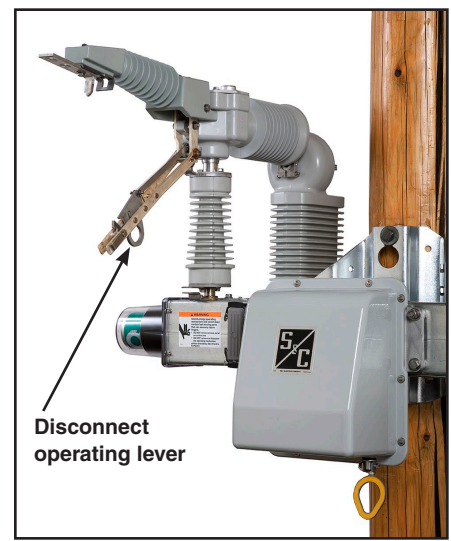

Figure 2. Front view of one pole with visible disconnect.
The integral single-pole, hookstick-operated disconnects provide a visible air-gap in the **Open** position. The disconnects are mechanically interlocked to prevent opening when the interrupters are closed and closing the interrupters when the disconnect is open. See Figure 2.
**Open**—The switch contacts indicate an **Open** switch position. See Figure 2 on page 1.